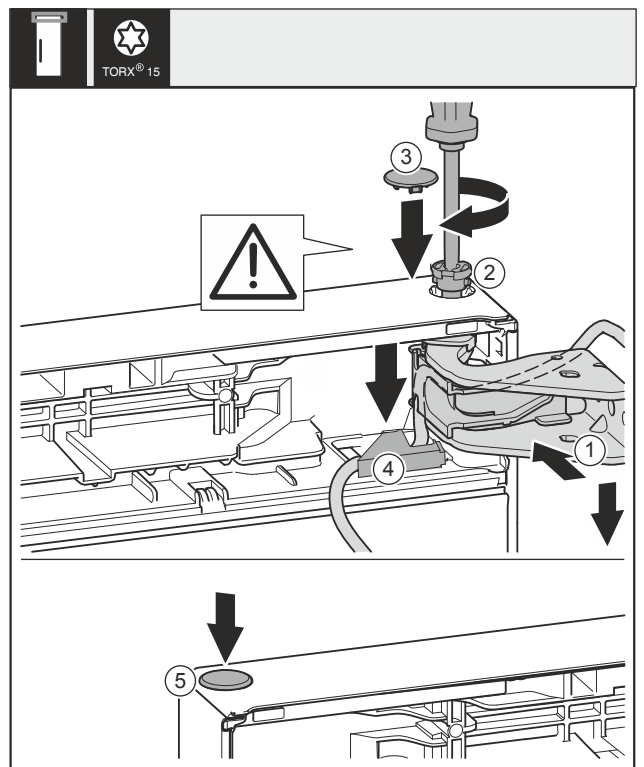

Fig. 44
- Align the top door with the opening in the swap bearing block Fig. 44 (1).
- Insert the bolt Fig. 44 (2) and use screwdriver to tighten it.
- Fit the safety cover to secure the door: Insert the safety cover Fig. 44 (3) and check whether the door is resting on it. Otherwise, insert the bolt fully.
- Insert the cover Fig. 44 (4) and push down until it engages.
- Insert the plug Fig. 44 (5).